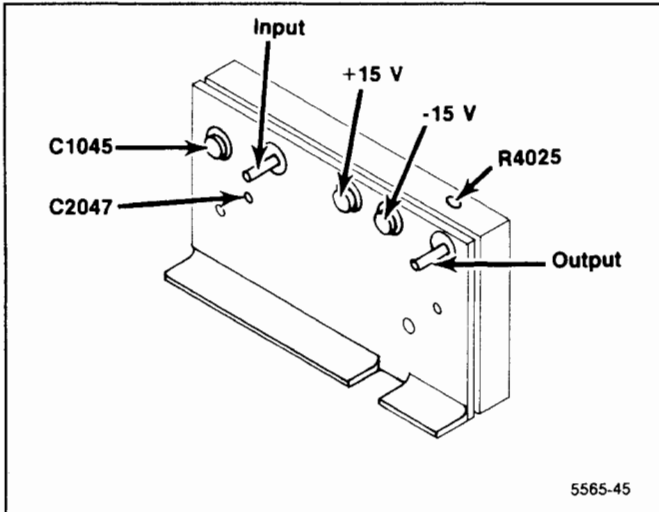

Figure 6-10. 110 MHz IF test points and adjustments.
6. Adjust C2047 and C1054 (Figure 6-10) simultaneously for minimum signal amplitude on the spectrum analyzer display. Minimum amplitude must be at least 35 dB down from the full screen reference of  $-20$  dBm.